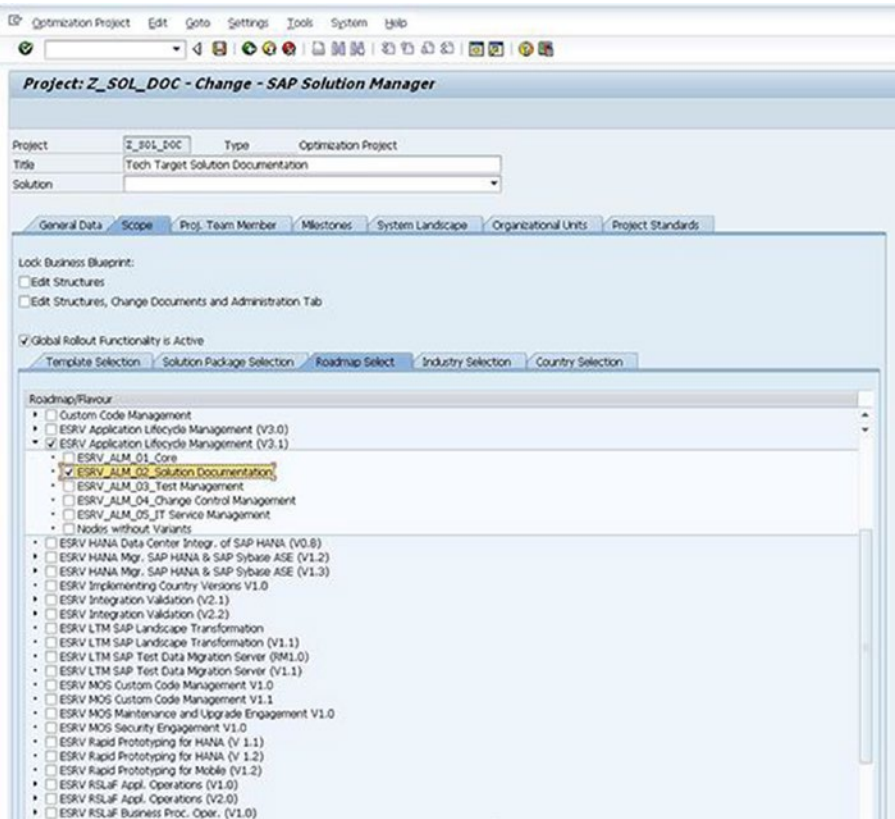

Figure 10-6. SolMan Roadmap Accelerator
2. Select the SAP SolMan Roadmap Accelerator. After you save the project, attach the SolMan roadmap to help guide you through the best practices, including use of accelerators with the /ESRV_ALM_01_CORE t-code, as shown in Figure 10-6. Now navigate to the ESRV_ALM roadmap and select the solution documentation.